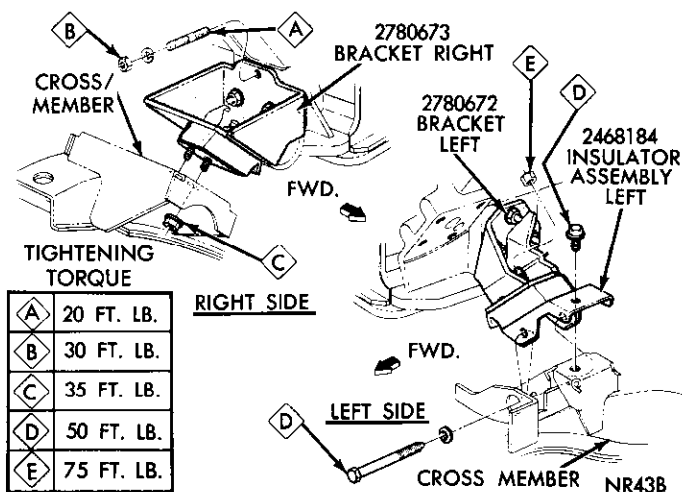

Fig. 1—Front Engine Mounts
(1) Install insulators to brackets loosely.
(2) Install engine mounts to engine, lower engine into position and install engine mount to frame bolts. Tighten to specifications (Fig. 1).
(3) On right side install fitting and flexible line to fuel pump; on left side install splash shield.
(4) Install throttle linkage to bellcrank.